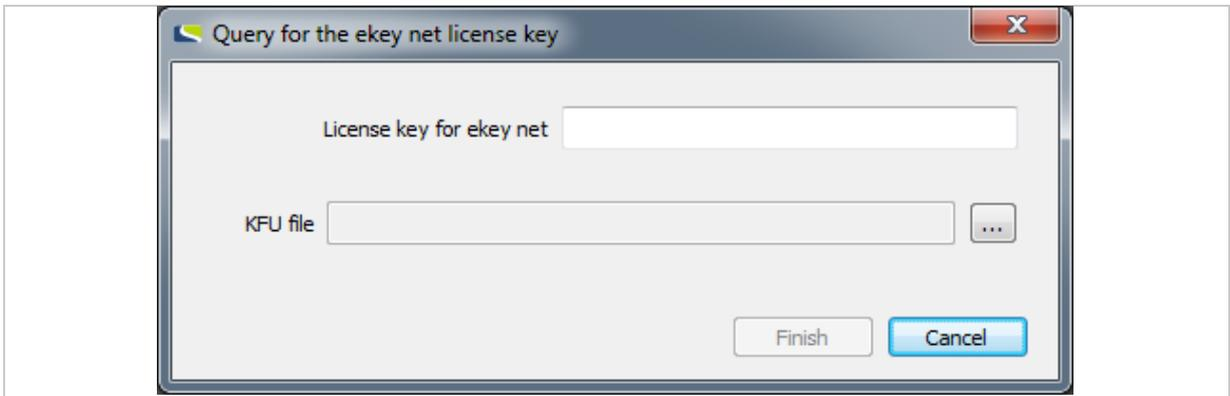

Fig. 10: QUERY FOR THE EKEY NET LICENSE KEY
7.	In the Query for the ekey net license key dialog, you will be asked to enter your license key for ekey net (see "Fig. 10: QUERY FOR THE EKEY NET LICENSE KEY ", page 20). You can ignore the option KFU FILE .
4th	You will be prompted to save the <code>ekeyLicenseRequest.txt</code> file. Send this file to <a href="mailto:license@ekey.net">license@ekey.net</a> . You will then receive a KFU file from ekey. When you install the ekey net master server , the QUERY FOR THE EKEY NET LICENSE KEY dialog will ask you for this file (see “Fig. 10: QUERY FOR THE EKEY NET LICENSE KEY ”, page 20).